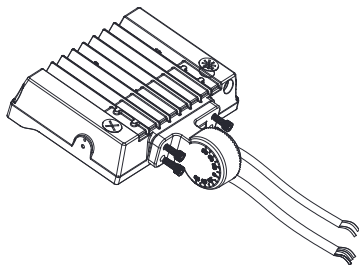

Fig 2.1
Step 2: Pass the rubber wire through the mounting head of the bracket and secure it with an inner hexagon screw. (Watch out not to scratch the wire). Figure 2.1